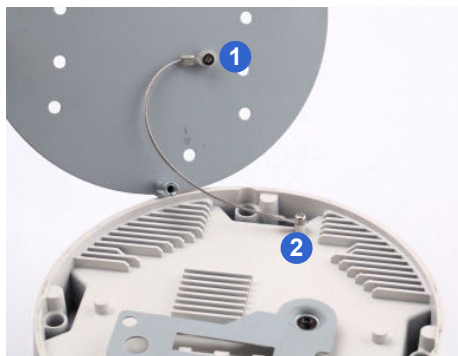

Figure 14-10
- D. Depending on how you want to run the wires (see step 4). Drill the right hole (Figure 14-10) for position A and the left for position B or both if required.